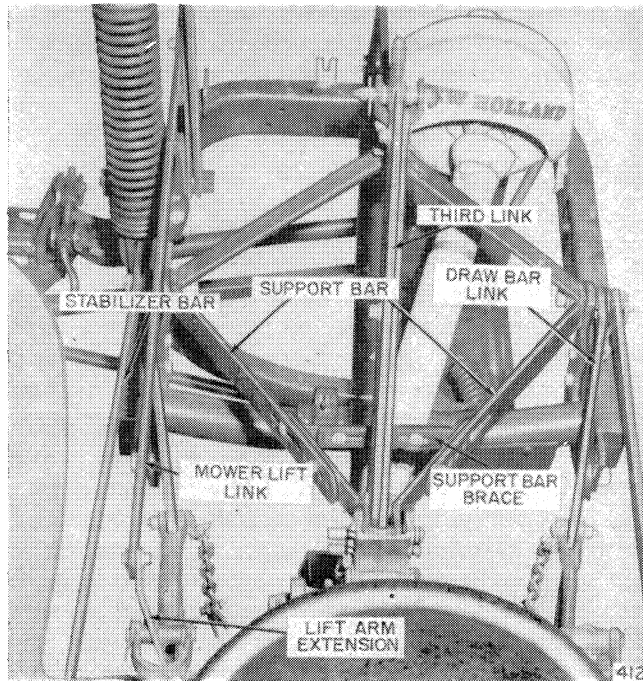
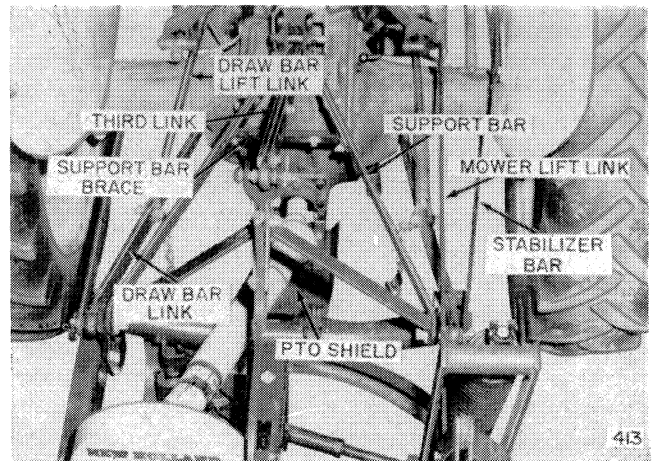
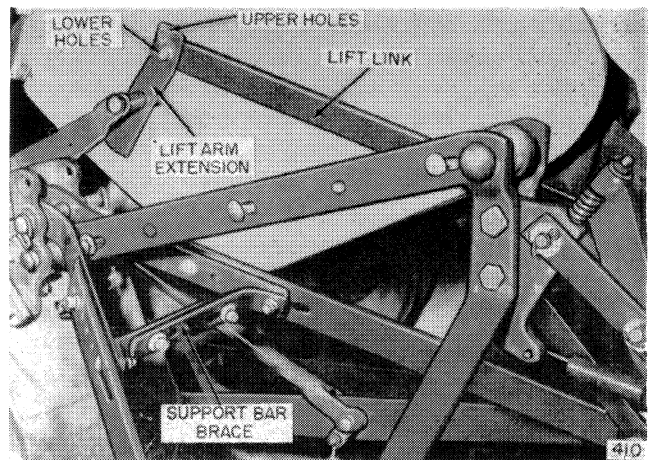
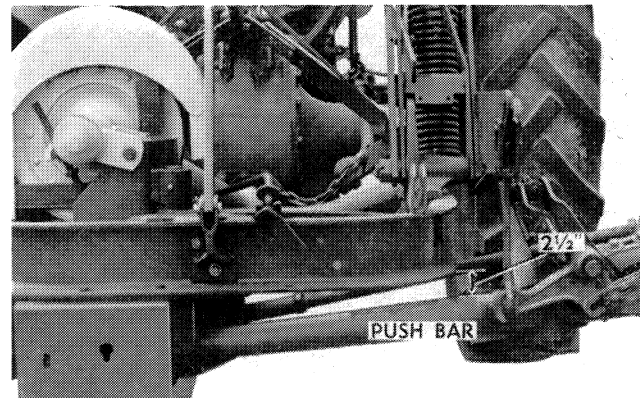

FIGURE 12
FIGURE 13
FIGURE 14
FIGURE 17
7. Swing the support bars forward and raise the mower so the bars are slightly above the pin hole. Lower the mower slightly and insert the pin. See Figures 14, 15 and 16 for proper pin location. **Note: When attaching to a Ferguson and Massey-Harris, straighten the bends in the support bars slightly on the first installation or the spacer shown cannot be installed.** The spacer should be installed after the pin is inserted and the mower is "hanging" on the support bars. Attach the support bar brace to the support bars as shown in Figures 12 & 13.
8. Lower the hydraulic control lever and turn the leveling crank until the pins can be removed from the lift arms and lift links. Allow the lift links to rest on the tractor axle as shown in Figure 13.
1. Attach the PTO shield to the rear of the tractor differential as shown in Figure 12.
3. Back the tractor to the mower and attach the drawbar and stabilize bars on the mower hitch pins as shown in Figure 12.
4. Attach the manufacturers "third" link to the top of the mower arch and raise the mower to attach the link to the tractor. See Figures 14, 15 and 16 for the proper hole position for the third link.
9. Install the lift arm extension as shown in Figure 14.
1. Attach the lift link to the lift arm extension in one of the upper holes for the Oliver 55 and one of the lower holes for all other models as shown in Figure 14. Select the proper combination of holes securing the link at point A, Figure 13 and on the forward end of the link, Figure 30, so that the push bar is $2\frac{1}{2}$ " below the frame as shown in Figure 17.
carriage bolt. Select the proper hole in the extension and adjust nuts so that when the lift is fully raised, the push bar will be approximately $2\frac{1}{2}$ inches from the mower frame as shown in Figure 17.